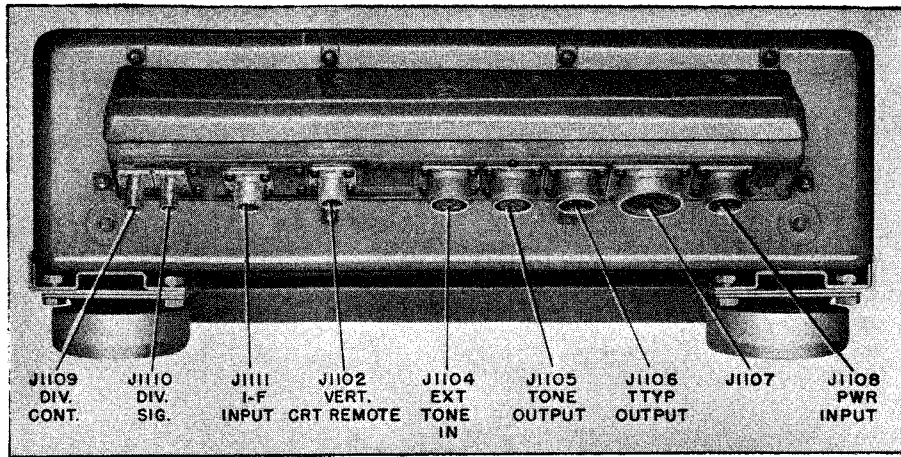

Figure 3-10. Frequency Shift Converter CV-57/URR, Rear View
(2) Attach the above two assemblies to the channel, (E) of Table 1-1, using eight No. 8-32 x 3/8 screws. Put flat washers and lock washers under the screws, with the lock washers next to the screws.
(3) Turn the case upside down and put shock mount assembly in place.
(4) Fasten shock mount in place with nine No. 8-32 x 3/8 screws and lock washers on each side of cabinet.
(5) Drill the four mounting holes in the table for 5/16-inch diameter bolts (not supplied): Two holes with centers 14 inches apart for the front shock mounts, and two holes with their centers 7-5/8 inches to the rear of the front bolt hole centers.
(6) Turn the equipment to rest on the shock mounts and bolt to the table with 5/16-inch bolts. Table 3-1 shows a listing of external connectors and related information. Figure 3-10 is a rear view of Converter CV-57/URR showing the locations of these connectors.
(1) Measure the power-line voltage by connecting a 150-volt range a-c voltmeter across the two contacts of the a-c outlet J1107 located next to PWR INPUT jack J1108 (see Figure 3-10). Pull chassis out of cabinet and remove Power Supply sub-assembly from chassis. Adjust tap on power transformer T801, if necessary, by changing the grey lead on terminals 2, 3 or 4. Transformer terminals 2, 3, and 4 are, respectively, for approximate line voltages of 105, 115, and 125 volts. Leave the fan lead (brown) on terminal 3 of the transformer. See Figures 7-4 and 7-29. Re-install Power Supply sub-assembly on chassis and push chassis back in place.
(2) Turn POWER switch, S1401, to ON. Neon pilot light on front panel should light about ten seconds later, which allows for tube warm-up.
(3) Set TUNE-OPERATE switch, S302, to TUNE.
(4) Set the TONE FREQ switch, S602, under the cover on the front panel, to the desired frequency. If an external tone frequency is used, set TONE FREQ to EXT and adjust frequency of tone generator. Adjust to suitable output level with TONE LEVEL control, R629.
(5) After about one minute, adjust the Tuning Monitor as follows: